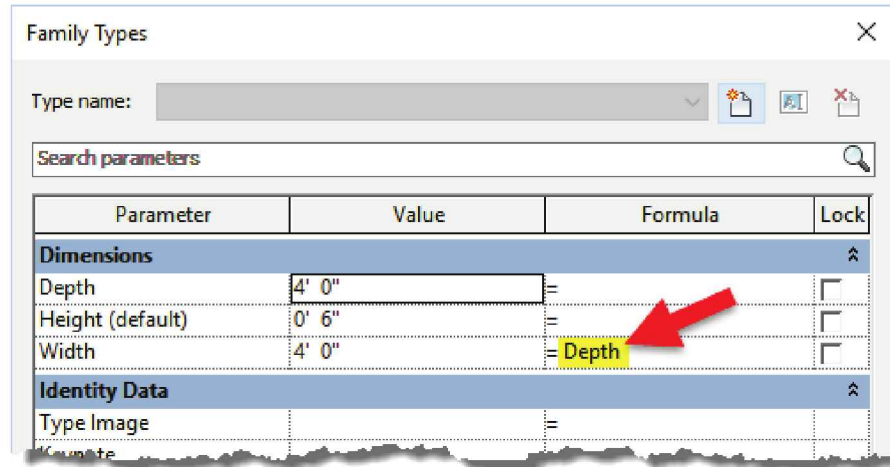

FIGURE 18-4.4 Modifying formula to control the width
11. Change the formula for *Width* to simply read **Depth** (see Figure 18-4.4).